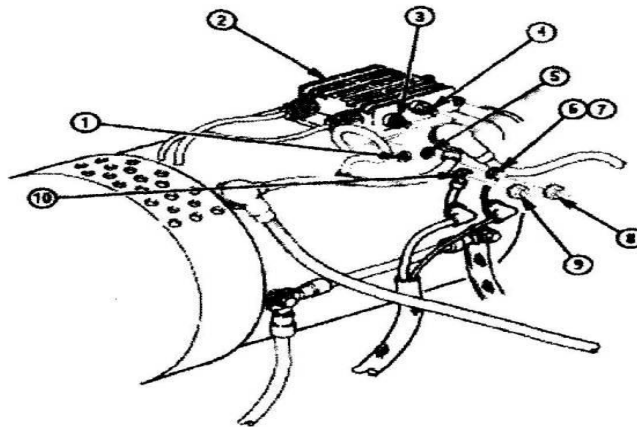

Figure 57
(11) Remove nut (8) from yellow terminal (4) on regulator (2) as shown in **Figure 57**. Retain all parts.
(12) Secure lead 2A (6) or lead 2C (7) to yellow terminal (4) on regulator (2) with existing nut (8) and washer (5). Tighten nut (8) to 20 lb-in (2 N·m). As shown in **Figure 57**.
(13) Remove nut (9) from red terminal (3) on regulator (2) as shown in **Figure 57**. Retain all parts.
(14) Secure lead 568 (10) to red terminal (3) on regulator (2) with existing nut (9) and washer (1) as shown in **Figure 57**. Tighten nut (9) to 35 lb-in (4 N·m).